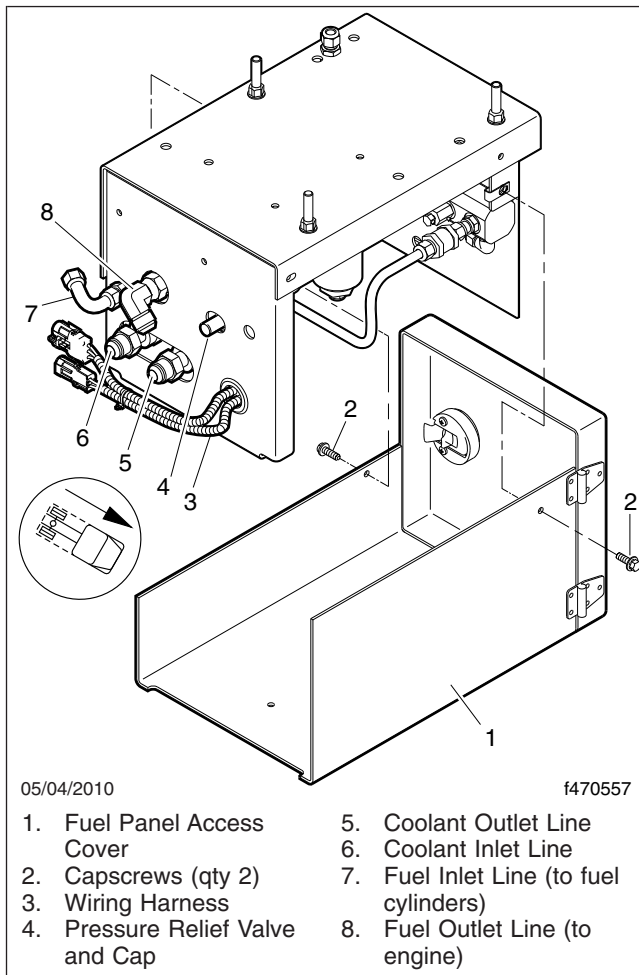

Fig. 13, CNG Fuel Panel Assembly
5. Remove the two capscrews that secure the access cover to the fill panel, then remove the access cover. See Fig. 13. Save the capscrews for reinstallation.